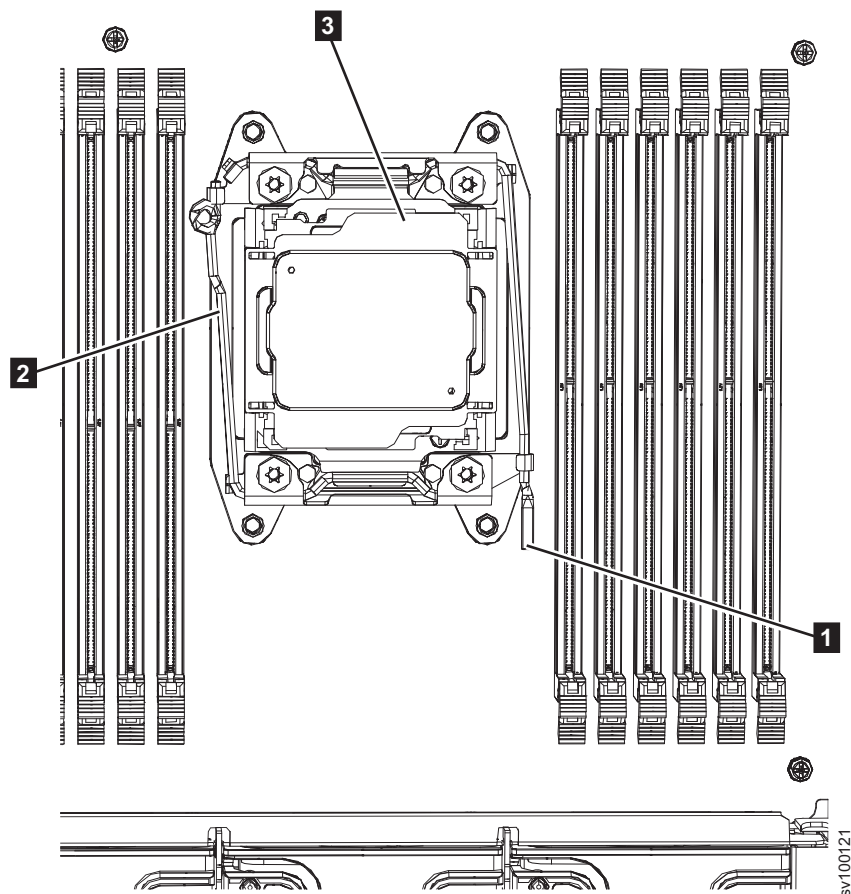

Figure 191. Opening the 2145-SV1 microprocessor bracket frame
1. Open the socket in preparation for inserting the microprocessor. Press down and in on the release lever (**1** in Figure 191 on page 234) as you did to remove the microprocessor. Then, lift the microprocessor-release lever 2 (**2**).